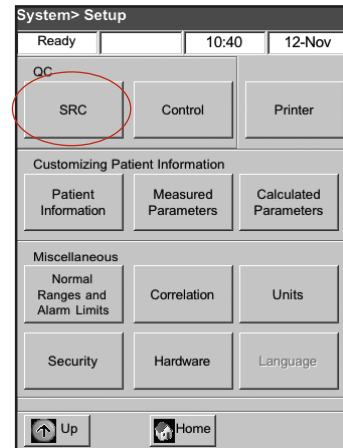

Figure B-5: System > Setup screen
- c. From the System> Setup screen, tap **SRC** (Figure B-5).